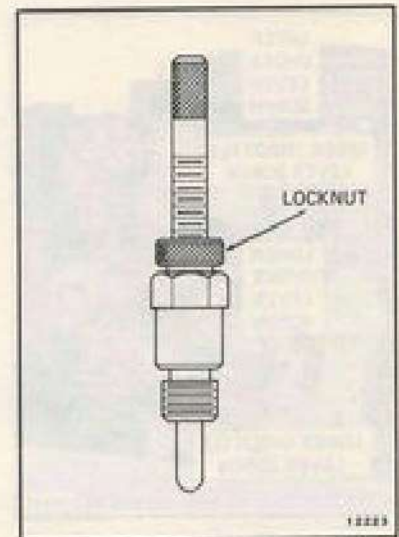

Figure 2-9. OMC Special Tool No. 384887
- b. Install Piston Stop Assembly (Special Tool #384887, Figure 2-9) in upper cylinder (No. 1) spark plug hole.